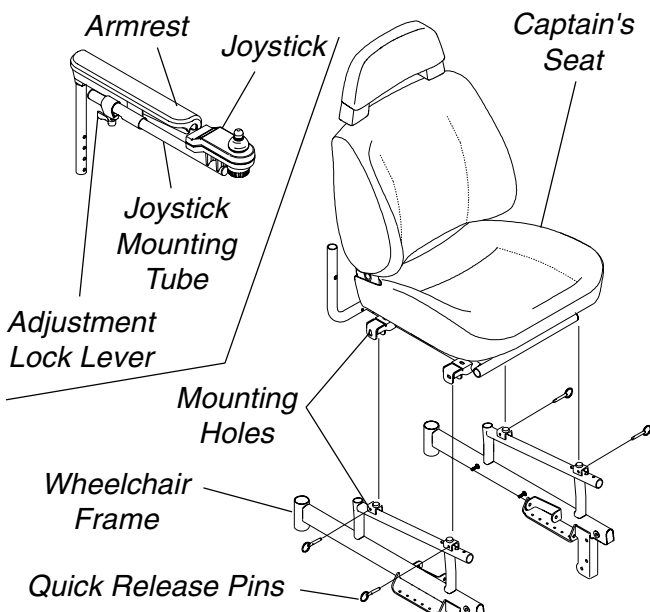

FIGURE 6- REMOVING/INSTALLING CAPTAIN'S SEAT
REMOVING/INSTALLING CAPTAIN'S SEAT (FIGURE 6)
1. Push the Captain's Seat down on the wheelchair frame at the position shown in **FIGURE 6**.